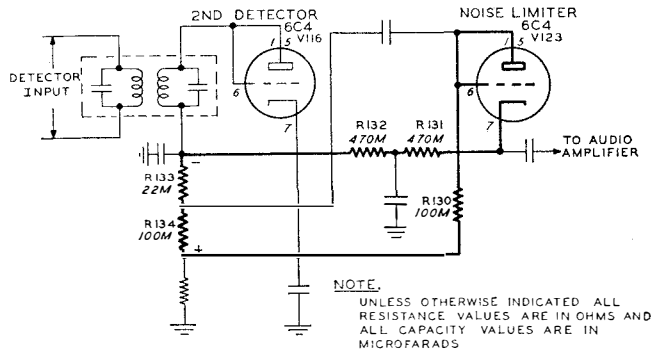

Figure 4-14A—Noise Limiter Circuit (DC Path)
(4) NOISE LIMITER CIRCUIT. (Refer to figure 4-14A, 4-14B, and 4-14C.)—A Wasmandorf type noise limiter is incorporated in the receiver section of this equipment. The purpose of the limiter circuit is to limit pulsing noises, such as caused by ignition, static and radar. The limiter circuit is of the conductive type. The limiter circuit is effectively between the second detector and the AF amplifier circuits. The Type 6C4 limiter tube, V123, ceases to pass the audio signal when large noise pulses are received.
of R132, C143A and C186, and through the cathode coupling resistor, R131. The filter section prevents any AC voltage, coming directly from the detector load circuit, from reaching the noise limiter cathode coupling resistor, R131, where it would be fed to the audio amplifier. The positive DC potential on the noise limiter tube causes conduction to take place. The current flowing in the tube circuit causes a DC voltage drop across the cathode coupling resistor, R131. See figure 4-14A.